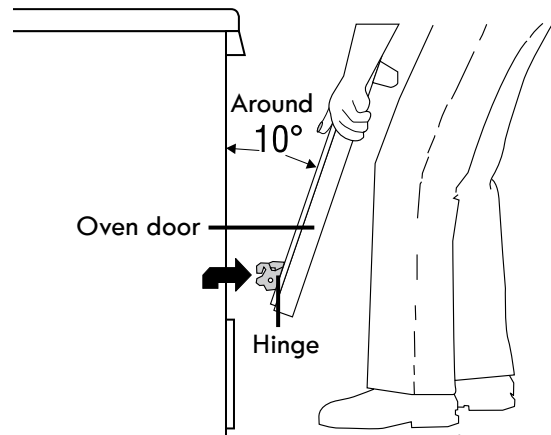
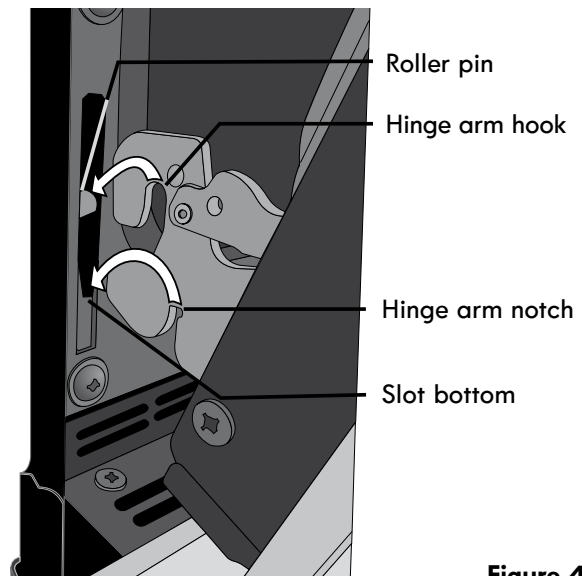

Figure 3
Figure 4
3. Firmly grasp both sides of oven door along the door sides (Do not use the oven door handle - See Figure 3).
5. With the oven door in the broil stop position, lift the oven door hinge arms over the roller pins located on each side of the oven frame (See Figure 4).
1. Firmly grasp both sides of oven door along the door sides (Do not use the oven door handle - See Figure 3).
2. Holding the oven door at the same angle as the removal position, seat the hook of the hinge arm onto the roller pins located on each side of the oven door frame (See Fig. 4). Also, seat the notch of the hinge arm onto the bottom of the slot at the same time you seat the hook. The hook and notch of the hinge arms must be fully seated onto the roller pins and bottom of the slot.
2. The bulb is covered with a glass shield screwed in place (fig. 3). Replace bulb with 25-watt halogen appliance bulb only (fig. 4). **Please note: do not allow your fingers to touch the new bulb when replacing. This will shorten the life of the new bulb. Use a paper towel to cover the new bulb when installing.**
3. Replace the glass shield (fig.3). **The glass shield must be in place whenever the oven is in use.**